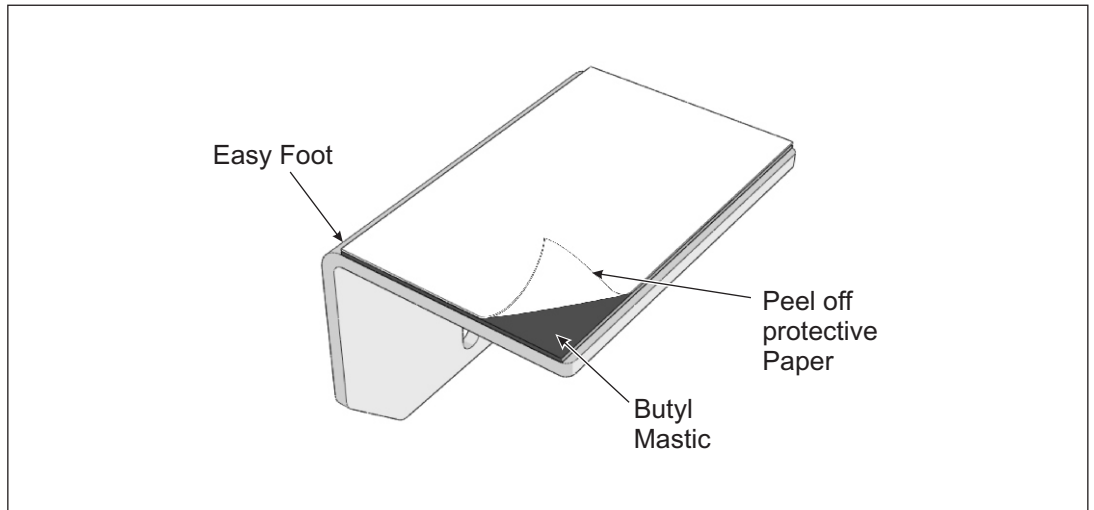

Figure 1: Removing Protective Paper
- A. From the bottom of Easy Foot, peel off the protective paper backing that protects the butyl mastic. (See Figure 1)